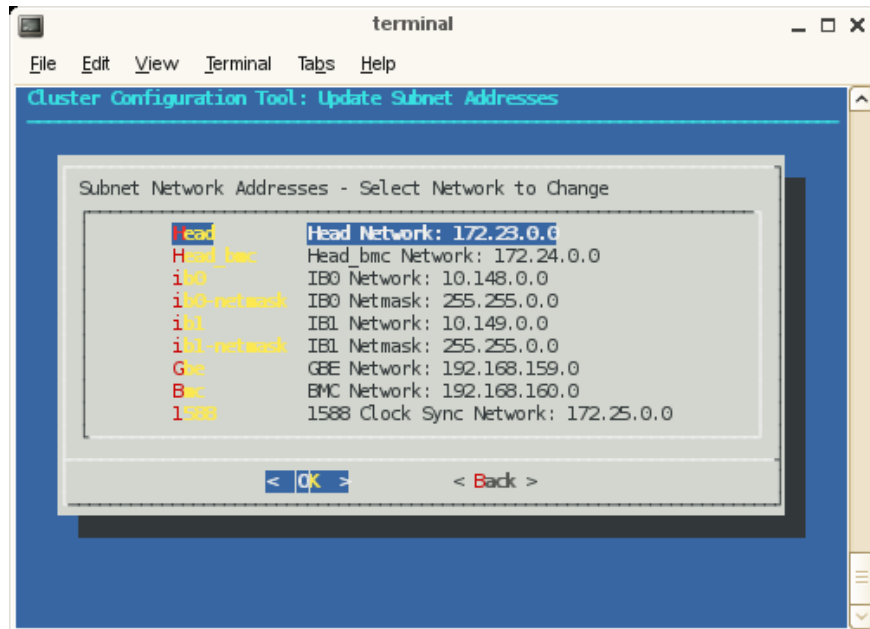

Figure 2-19 Update Subnet Addresses Screen
11. The **Update Subnet Addresses** screen appears, as shown in Figure 2-19 on page 58.